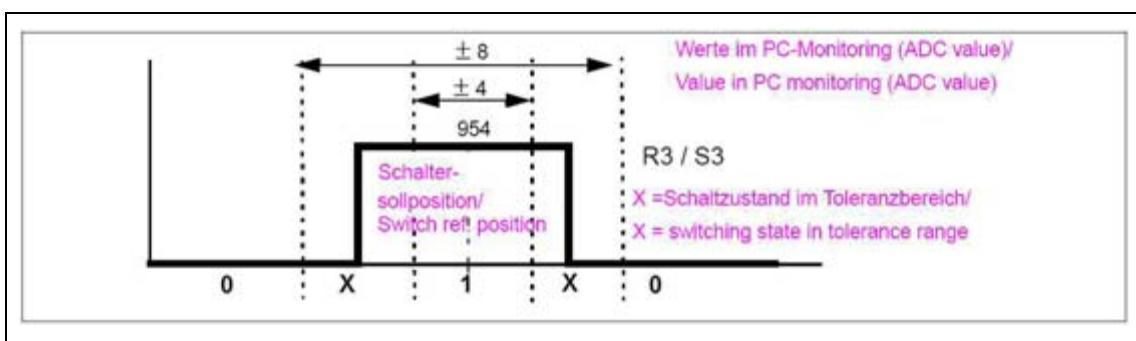

Fig. 20: Replacing S3
- Adjust reference switch S3 so that switching is assured within the stated switching hysteresis tolerance range (refer to (Fig. 5 / p. 36) and (Fig. 20 / p. 54)).
- Check the switching hysteresis of reference switch S3 according to \(Fig. 20 / p. 54\).